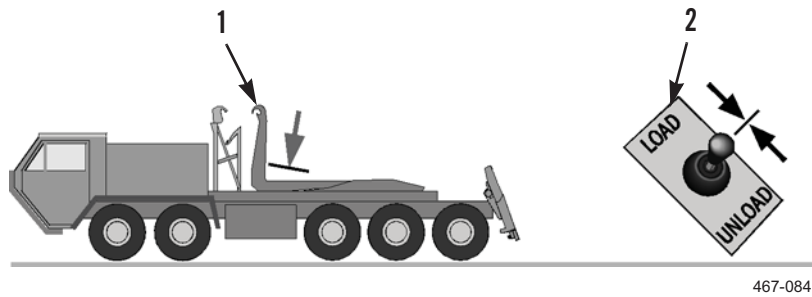

Figure 24. Hook Arm Stopped.
16. As soon as hook arm (Figure 24, Item 1) stops moving, release joystick (Figure 24, Item 2) (PLS: TM 9-2320-364-14&P, HEMTT: TM 9-2320-326-14&P).